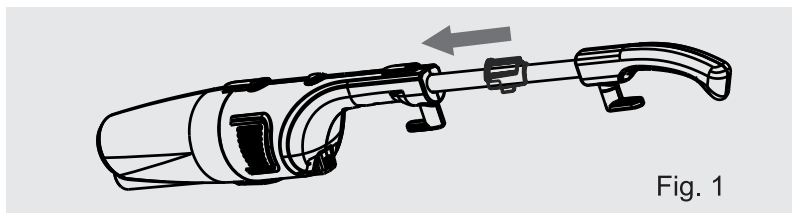

Fig. 1
(1) Install the hand grip: Insert the hand grip into the main body (refer to Fig. 1)